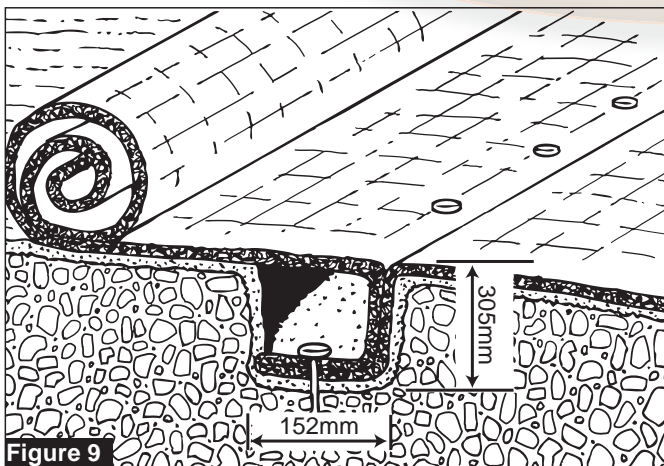

Figure 9
- Fold and secure mat rolls snugly into intermittent check slots. Lay mat in the bottom and fold back against itself. Anchor through both layers of blanket or mat at 300 mm intervals then backfill and compact soil (Figure 9). Continue rolling upstream over the compacted slot to the next check slot or terminal anchor trench. Check slots are placed at 7.6 to 9.1 m intervals perpendicular to flow.